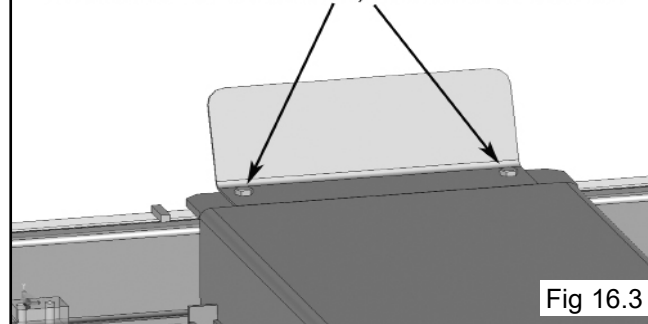

Fig 16.3
3. Install the Front Tire Stops at the forward side of the lift using the M14 x 2 Hex Bolts, Nuts and Washers. (See Fig. 16.3)